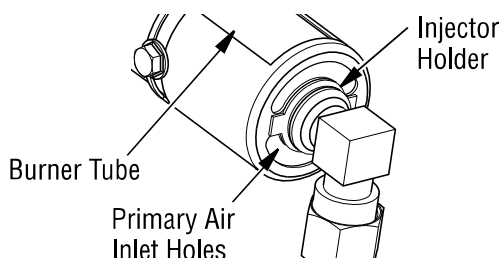

Figure 38 - Injector Holder On Outlet Burner Tube
2. Inspect burner, pilot and primary air inlet holes on injector holder for dust and dirt (see **Figure 38, Page 28**).